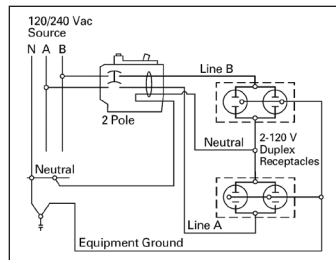

Figure 2. Two-pole, shared neutral with multi-duplex receptacle application
- b Independent trip refers to two-pole multi-wire, home run or shared neutral circuits (see **Figure 2** and **Figure 4**).